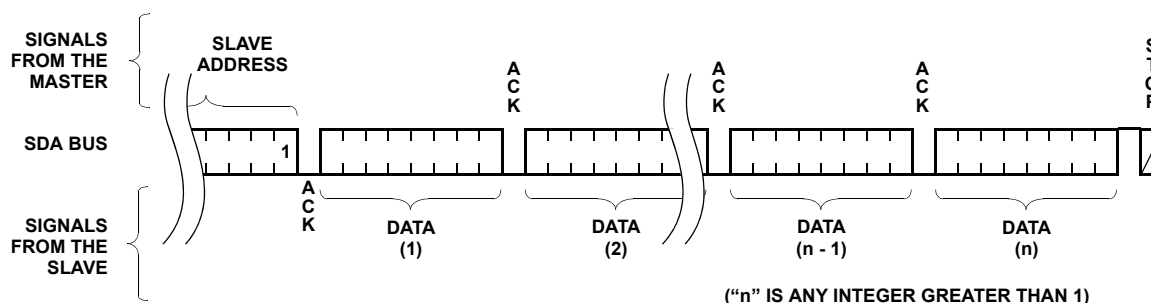

FIGURE 11. SEQUENTIAL READ SEQUENCE ("n" IS ANY INTEGER GREATER THAN 1)
The data output is sequential, with the data from address n followed by the data from address $n + 1$. The address counter for read operations increments through all page and column addresses, allowing the entire memory contents to be serially read during one operation. At the end of the address space the counter "rolls over" to address 0000_H and the device continues to output data for each acknowledge received. Refer to Figure 11 for the acknowledge and data transfer sequence.
- one bit of the slave command byte is a $R/\overline{W}$ bit. The $R/\overline{W}$ bit of the slave address byte defines the operation to be performed. When the $R/\overline{W}$ bit is a one, then a read operation is selected. A zero selects a write operation. Refer to Figure 11.